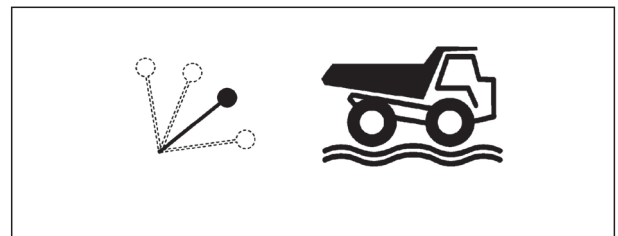

Fig. 4-26
5. Make sure the body control lever is in the 'FLOAT' position. (see Fig.4-26).